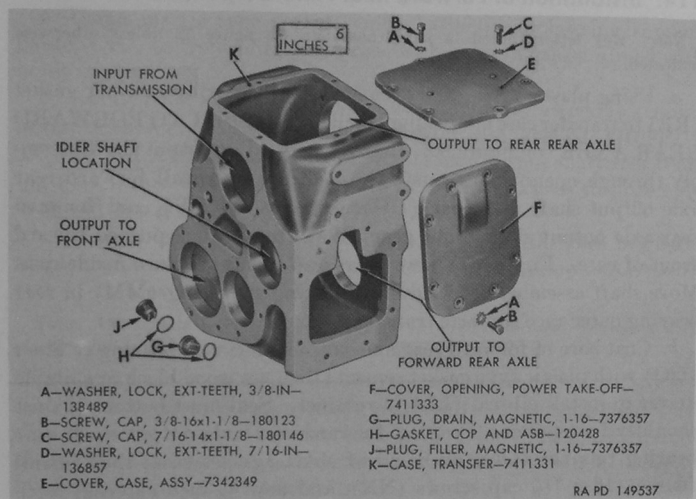
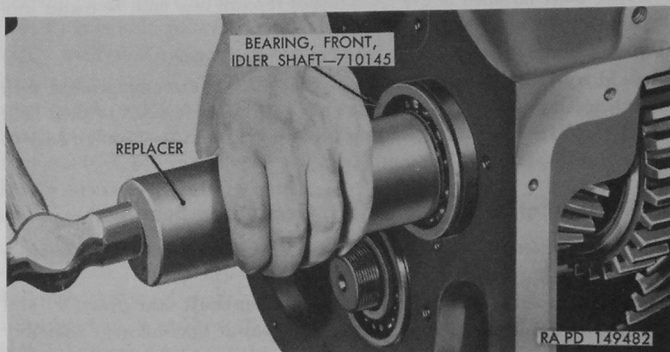

Figure 80. Transfer case and covers.
Figure 82. Use of replacer 41-R-2390-415 for installing idler shaft front bearing.
*Note.* Key letters noted in parentheses are in figure 80.
a. Thoroughly wash transfer case (K), both inside and out, using dry-cleaning solvent or volatile mineral spirits. If necessary, use a stiff brush or other cleaning tool to dislodge accumulations of dirt.
a. Examine transfer case (K) carefully for evidence of cracks, using approved method for locating defects in iron castings. If case is cracked or broken, obtain new case for use when assembling.
b. Inspect case cover assembly (E) and note condition of oil trough riveted to under side of cover. Also inspect power take-off opening
a. Using plastic type gasket cement, attach bearing retainer gasket (RR) to transfer case at opening labelled "OUTPUT TO FORWARD REAR AXLE" on figure 80. Insert front end of output shaft assembly through opening in transfer case (ZZ) and install forward rear axle output shaft rear gear (UU), gear spacer (VV), and forward rear axle output shaft front gear (WW) as shaft is pushed toward front of case. Figure 57 shows gears and spacer in place inside case. Move shaft assembly forward until bearing snap ring (MM) in rear bearing outer race contacts transfer case.
b. Coat bore in forward rear axle output shaft rear bearing retainer (QQ) with plastic type gasket cement; then use wood block or suitable driver to install oil seal (LL) in retainer. Seal must bottom against shoulder in retainer. Position forward rear axle output shaft rear bearing retainer (QQ) over end of shaft against case; then install four  $\frac{3}{8}$ -16 x  $1\frac{1}{8}$  cap screws (NN), and new  $\frac{3}{8}$ -inch external teeth lock washers (PP) to attach bearing retainer to case. Tighten cap screws to torque of 20 to 25 pound-feet.
c. Place bearing spacer (AT) on front end of forward rear axle output shaft (AU); then install forward rear axle output shaft front bearing (AW) on shaft, using replacer 41-R-2390-415 in manner illustrated in figure 82. Bearing inner race must seat firmly against bearing spacer (AT).
*Note.* Outer race of forward rear axle output shaft front bearing (AW) has a snap ring groove but no snap ring is used.
d. Place a new nut lock (AV) on front end of forward rear axle output shaft (AU) and install bearing lock nut (AS) loosely.
e. Install flange assembly (HH) on forward rear axle output shaft (AU) and retain with  $\frac{7}{8}$ -14 nut (KK).
a. Using plastic type gasket cement, attach new bearing support gasket (AC) to front of transfer case with holes in gasket aligned with holes in case.
b. Install front axle output shaft and components assembly (shown in figure 72) in opening in front of transfer case labelled "OUTPUT TO FRONT AXLE" on figure 80. Front axle output shaft rear bearing (YY) must be guided into recess in transfer case as the assembly is moved into position.
c. Aline holes through front bearing support with holes in gasket and transfer case and install eight  $\frac{3}{8}$ -16 x  $1\frac{1}{8}$  cap screws (AE) with new  $\frac{3}{8}$ -inch external-teeth lock washers (AD).
c. Place bearing spacer (BD) on front end of idler shaft, then install idler shaft front bearing (BE), using replacer 41-R-2390-415 as shown in figure 82 to drive bearing onto idler shaft.
d. Install nut lock (BH); then install bearing lock nut (BF). Tighten bearing lock nuts (BF and CC) to minimum torque of 100 pound-feet, using holding tool 41-T-3215-910 on forward rear axle output shaft flange to prevent idler shaft from turning. Bend nut locks (AA and BH) against nuts to prevent loosening.
e. Install speedometer drive gear (BJ) on front end of idler shaft, using replacer 41-R-2390-415 shown in figure 82 to drive gear into place on idler shaft.
f. Place a new retainer gasket (BL) at transfer case; then install idler shaft front bearing retainer (BG), using three  $\frac{3}{8}$ -16 x  $1\frac{1}{8}$  cap screws (AZ), with new  $\frac{3}{8}$ -inch external-teeth lock washers; coat cap screw threads with plastic type gasket cement to prevent leaks. Tighten cap screws to torque of 20 to 25 pound-feet.
g. Coat threads with plastic type gasket cement; then install speedometer driven gear assembly (BK) in idler shaft front bearing retainer (BG). Tighten gear assembly into retainer with torque wrench to torque 30 to 35 pound-feet.
a. Coat bearing surface of bushing type bearing (BY) and surface of splines on input shaft (B) with universal gear lubricant (GO). Also apply same lubricant on surface of oil seal sleeve on flange assembly.
b. While holding input shaft gear (CB) inside transfer case, insert input shaft (B) through opening in rear of case, through input shaft gear (CB), and out front of case through opening marked "INPUT FROM TRANSMISSION" on figure 80.
c. Place bearing spacer (BX) on input shaft; then install input shaft front bearing (BW), driving bearing into place until bearing snap ring (BM) contacts transfer case.
d. Coat bore in input shaft front bearing retainer (BN) with plastic type gasket cement; then use wood block or suitable driver to install oil seal (BS) in retainer. Front face of seal assembly must be flush with front of retainer.
e. Place retainer gasket (BV) around opening at front of transfer case. Install bearing retainer and oil seal assembly on transfer case, using four  $\frac{3}{8}$ -16 x  $1\frac{1}{8}$  cap screws (BT) and new  $\frac{3}{8}$ -inch external-teeth lock washers (BU). Tighten cap screws to torque of 20 to 25 pound-feet.
f. Install flange assembly (BR) on front end of input shaft and retain with  $1\frac{1}{8}$ -12 nut (BQ). Tighten  $1\frac{1}{8}$ -12 nut (BQ) to minimum torque of 130 pound-feet. Install  $\frac{1}{8}$  x 2 cotter pin (BP) to secure nut.
*Note.* Key letters noted in parentheses are in figure 80 unless otherwise indicated.
a. Install 1-16 magnetic drain plug (G) and 1-16 magnetic filler plug (J) using new copper and asbestos gaskets (H).
b. Using eight  $\frac{3}{8}$ -16 x  $1\frac{1}{8}$  cap screws (B) and new  $\frac{3}{8}$ -inch external-teeth lock washers (A), install power take-off opening cover (F) with new gasket. Cap screws used at holes tapped through case must be coated with plastic type gasket cement to prevent leaks. Tighten all cap screws to torque of 20 to 25 pound-feet.